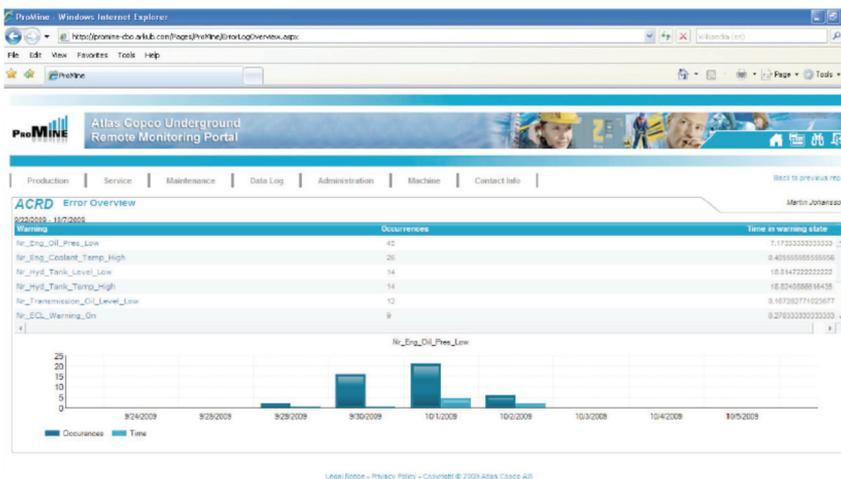

Figure 4. Error overview information (allows for proactive maintenance)
- Equipment alarms (refer Figure 4).